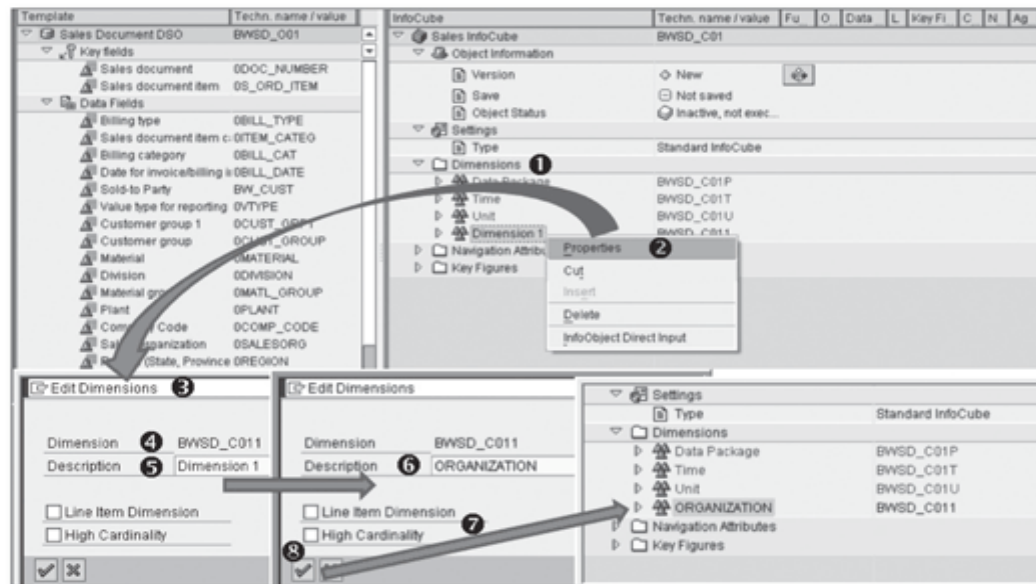

Figure 5.12 Change Dimension Description
Before we explain how to add new dimensions, let's explain the process of changing the description of Dimension 1, the placeholder name for the customer-defined dimension. (A dimension's description is visible in BEx Query Designer while designing a query based on an InfoCube and is a great help when working with queries.) As shown in ❷ of Figure 5.12, select the PROPERTIES option from the context menu of Dimension 1, under Dimensions (refer to ❶ of Figure 5.12).
A screen titled Edit Dimensions appears, as shown in ③ of Figure 5.12. By default, the technical name BWSD_C011 is assigned to Dimension 1 (④). The description of this dimension also appears as Dimension 1 (⑤).
Going back to our earlier example, edit the description of the first customer-defined dimension so it reads "ORGANIZATION" (❸ of Figure 5.12). Immediately beneath this, there are two check boxes (❹), which are explained next.
When finished in the Edit Dimension screen, click on the CONTINUE icon (refer back to ❸ of Figure 5.12), or press ENTER to return to the InfoCube definition screen.